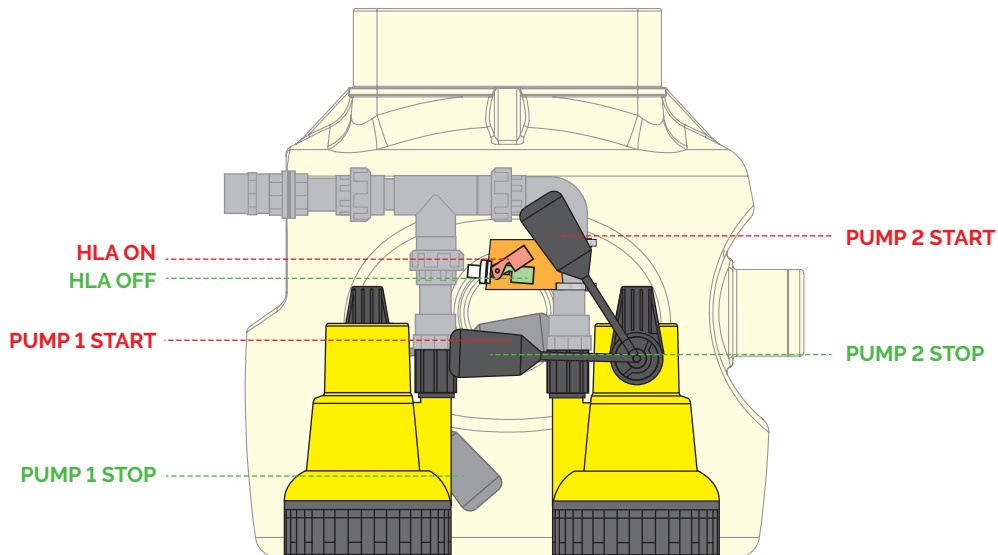

Figure 4. Mini float switch on and off positions.
1. The mini float switch should be positioned between the activation points of the two pumps, as shown in Figure 4. This will cause the alarm to trigger if Pump 1 has failed, before Pump 2 empties the chamber. This periodic triggering is a useful indicator that there is a fault in the pumping station.